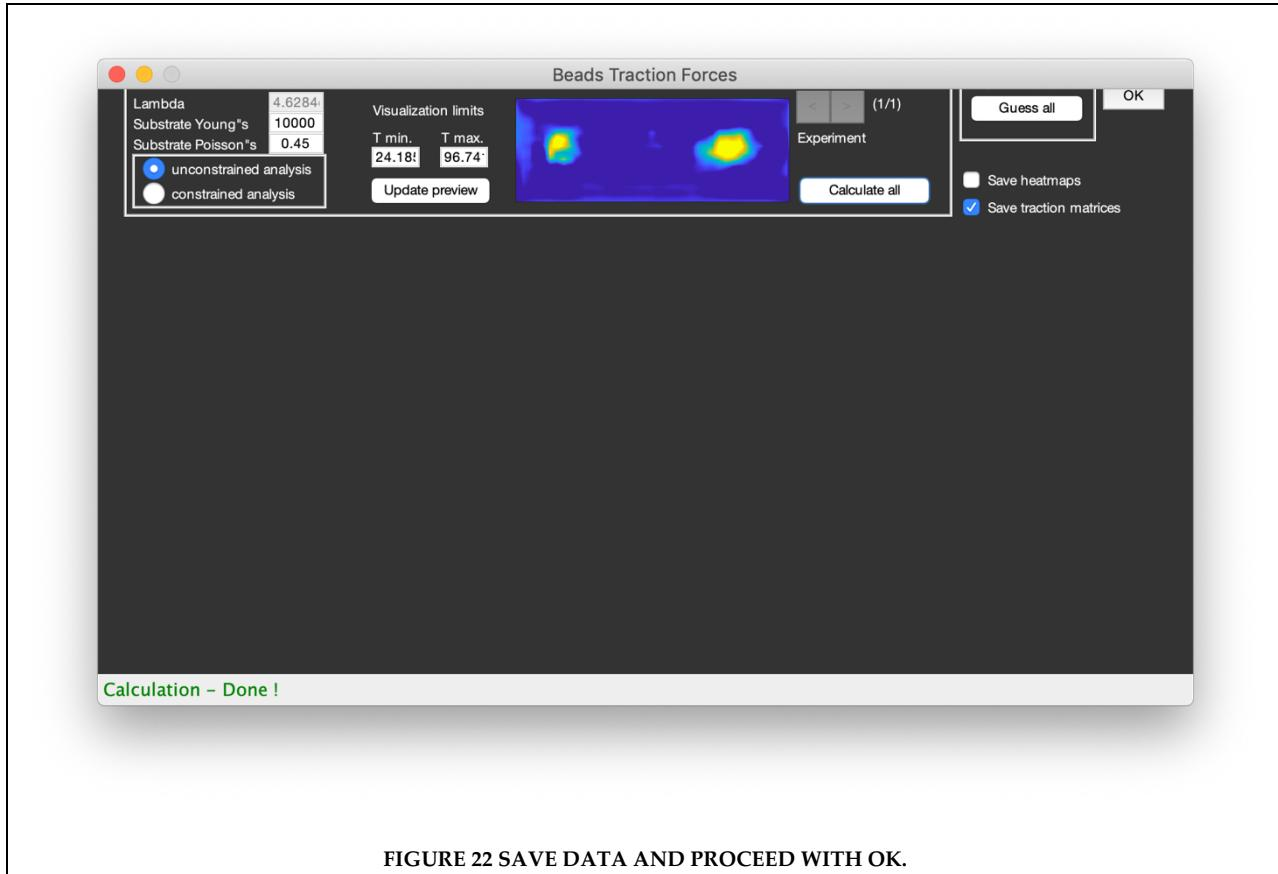

FIGURE 22 SAVE DATA AND PROCEED WITH OK.
6. Select what data to save and click on OK to proceed (Figure 22).